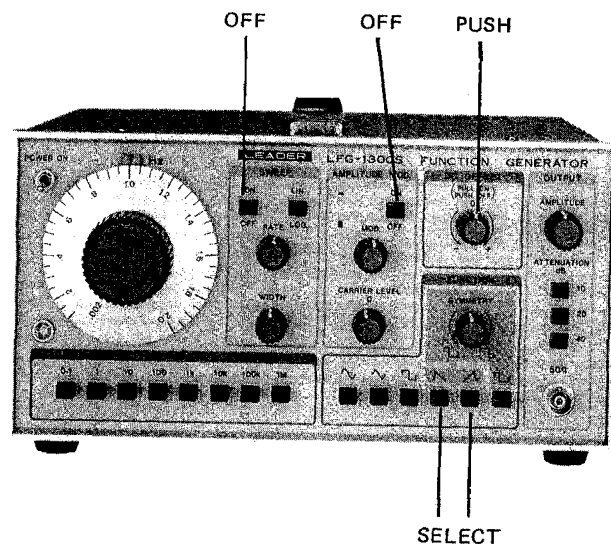

Figure 5-5. Sawtooth Operation
1. Follow paragraph 5-2-1, but depress the  $\nabla$  or  $\blacktriangledown$  push-buttons for a falling or rising voltage ramp. Waveform symmetry is fixed at a value of 15:85 or 85:15. See Fig. 5-5.